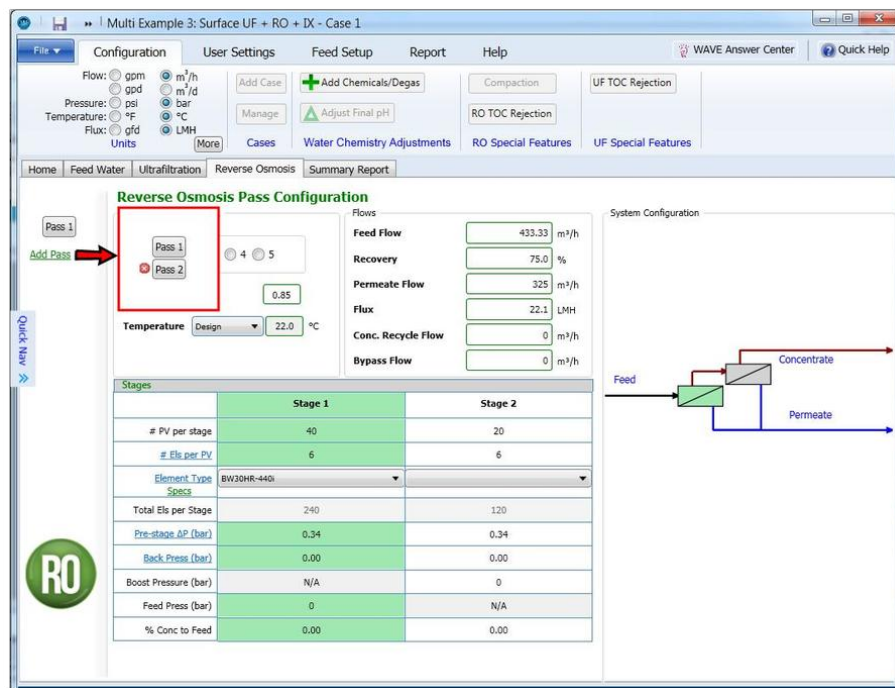

Figure 120. Adding and removing passes in RO system
Click on “Add Pass” as shown in Figure 120. The additional pass (Pass 2) can be removed by:
2. Click on the red oval beside the Pass 2 button as shown in Figure 120.